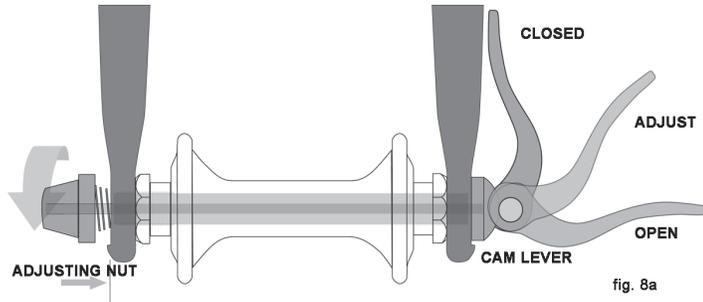
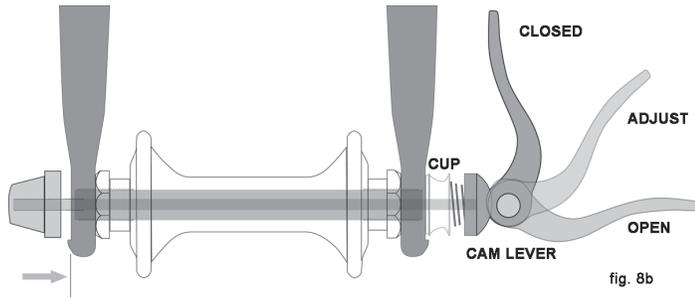
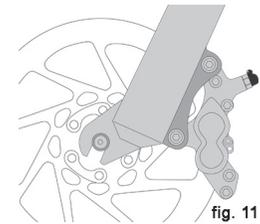
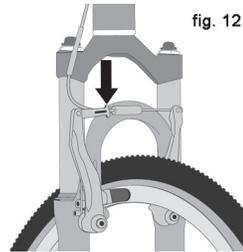

fig. 8a
fig. 8b
fig. 11
fig. 12
There are currently two types of over-center cam wheel retention mechanisms: the traditional over-center cam (fig. 8a) and the cam-and-cup system (fig. 8b). Both use an over-center cam action to clamp the bike's wheel in place. Your bicycle may have a cam-and-cup front wheel retention system and a traditional rear wheel cam action system.
##### a. Adjusting the traditional cam action mechanism (fig. 8a)
#### b. Adjusting the cam-and-cup mechanism (fig. 8b)
(1) If your bike has rim brakes, disengage the brake's quick-release mechanism to increase the clearance between the tire and the brake pads (See Section 4.C fig. 11 through 15).
(2) If your bike has cam action front wheel retention, move the cam lever from the locked or CLOSED position to the OPEN position (figs. 8a & b). If your bike has through bolt or bolt-on front wheel retention, loosen the fastener(s) a few turns counter-clockwise using an appropriate wrench, lock key or the integral lever.
(3) If your front fork has a clip-on type secondary retention device, disengage it and go to step (4). If your front fork has an integral secondary retention device, and a traditional cam action system (fig. 8a) loosen the tension adjusting nut enough to allow removing the wheel from the dropouts. If your front wheel uses a cam-and-cup system, (fig. 8b) squeeze the cup and cam lever together while removing the wheel. No rotation of any part is necessary with the cam-and-cup system.
(1) If your bike has cam action front wheel retention, move the cam lever so that it curves away from the wheel (fig. 8b). This is the OPEN position. If your bike has through bolt or bolt-on front wheel retention, go to the next step.
(2) With the steering fork facing forward, insert the wheel between the fork blades so that the axle seats firmly at the top of the fork dropouts. The cam lever, if there is
one, should be on rider's left side of the bicycle (fig. 8a & b). If your bike has a clip-on type secondary retention device, engage it.
(3) If you have a traditional cam action mechanism: holding the cam lever in the ADJUST position with your right hand, tighten the tension adjusting nut with your left hand until it is finger tight against the fork dropout (fig. 8a). If you have a cam-and-cup system: the nut and cup (fig. 8b) will have snapped into the recessed area of the fork dropouts and no adjustment should be required.
(4) While pushing the wheel firmly to the top of the slots in the fork dropouts, and at the same time centering the wheel rim in the fork:
(a) With a cam action system, move the cam lever upwards and swing it into the CLOSED position (fig. 8a & b).
(2) If your bike has rim brakes, disengage the brake's quick-release mechanism to increase the clearance between the wheel rim and the brake pads (see Section 4.C, figs. 11 through 15).
(3) On a derailleur gear system, pull the derailleur body back with your right hand.
(4) With a cam action mechanism, move the quick-release lever to the OPEN position (fig. 8b). With a through bolt or bolt on mechanism, loosen the fastener(s) with an appropriate wrench, lock lever or integral lever; then push the wheel forward far enough to be able to remove the chain from the rear sprocket.
(5) Lift the rear wheel off the ground a few inches and remove it from the rear dropouts.
Some bikes are equipped with a cam action seat post binder. The seat post cam action binder works exactly like the traditional wheel cam action fastener (Section 4.A.2) While a cam action binder looks like a long bolt with a lever on one end and a nut on the other, the binder uses an over-center cam action to firmly clamp the seat post (see fig. 8a).
3. Some bicycle brakes, such as disc brakes (fig. 11) and linear-pull brakes (fig. 12), are extremely powerful. Take extra care in becoming familiar with these brakes and exercise particular care when using them.
wheel is removed or reinstalled. When the brake quick release is in the open position, the brakes are inoperative. Ask your dealer to make sure that you understand the way the brake quick release works on your bike (see figs. 12, 13, 14 & 15) and check each time to make sure both brakes work correctly before you get on the bike.